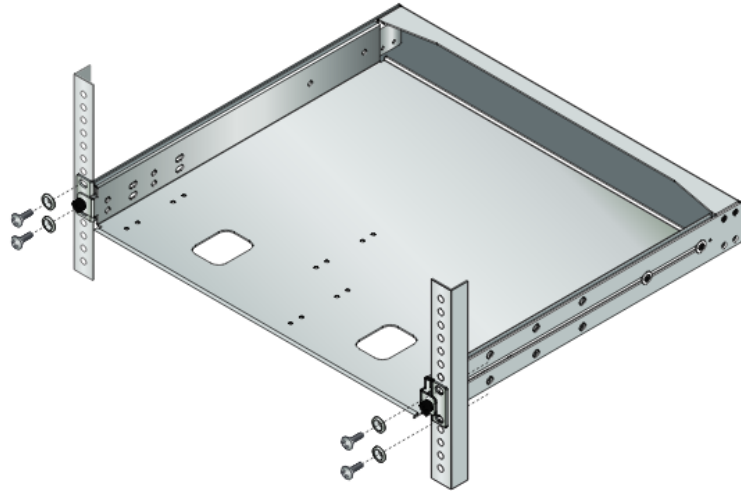

Figure 32. Installing the AT-RKMT-J15 Tray in a n Equipment Rack
2. Mount the AT-RKMT_J15 tray in a 19 -inch equipment rack using four equipment rack screws. See Figure 32 on page 64.